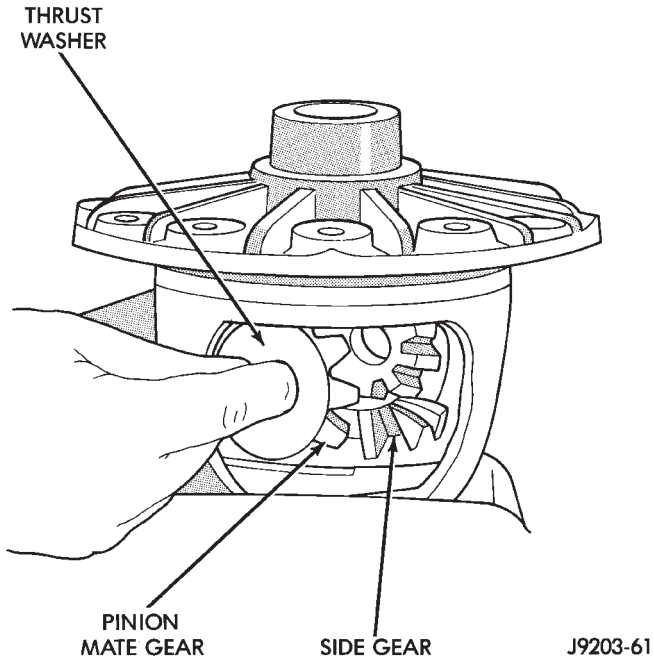

Fig. 40 Pinion Mate Gear Removal
- (1) Remove pinion gear mate shaft.
- (2) Rotate the differential side gears and remove the pinion mate gears and thrust washers (Fig. 40).